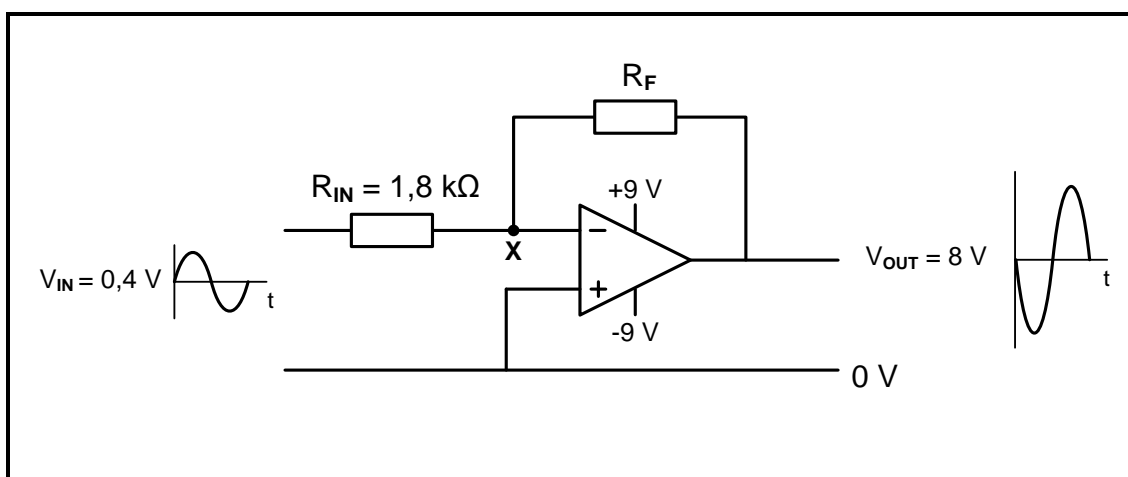

FIGURE 3.2: INVERTING OP AMP
3.2 FIGURE 3.2 below shows the circuit diagram of an inverting op-amp.